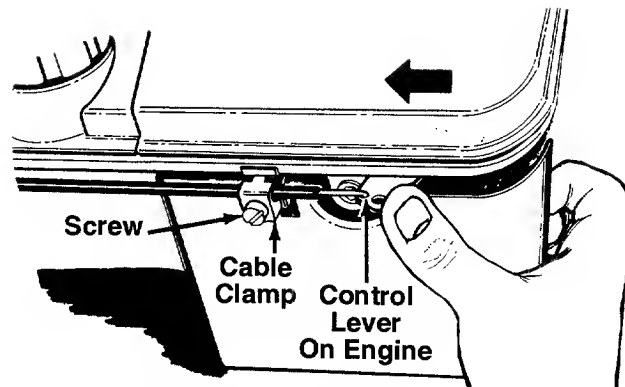

FIGURE 10A.—Briggs & Stratton Quantum Engines
1. Remove the screw shown in figure 10A. Remove the cable clamp from the cable.